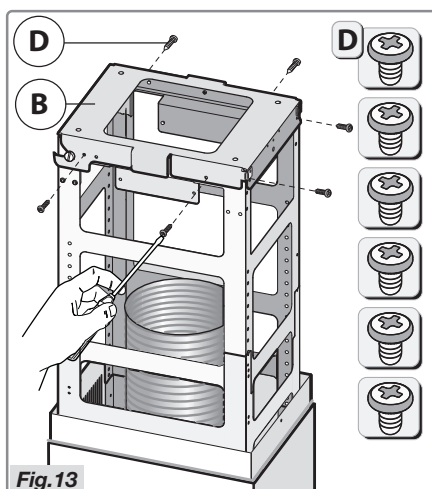

Fig.13
- **Please note!** Secure the hood directly onto the bracket **B** with the 6 screws **D** (Fig.13).